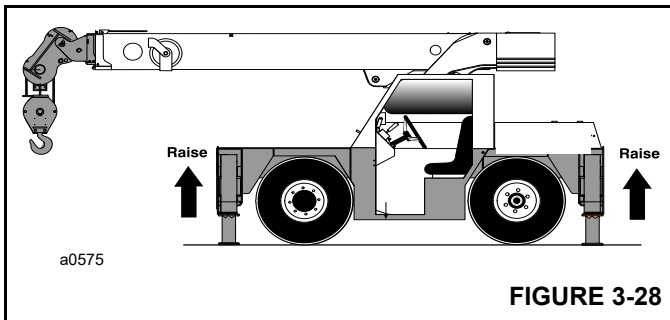

FIGURE 3-28
4. Push the bottom of the Extend/Retract Switch (2).
5. Press the accelerator pedal to increase the engine speed, which will accelerate the upward movement of the jacks (Figure 3-28). Release the accelerator pedal and the switch when the jacks are fully retracted.